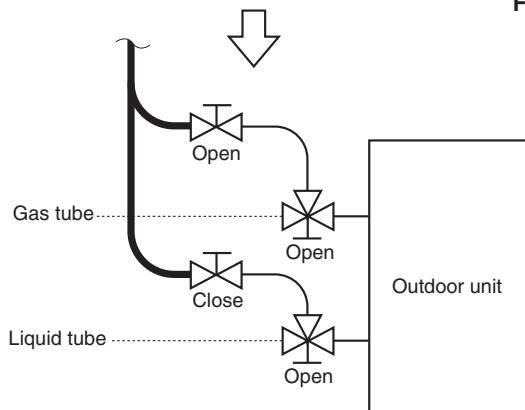

Fig. 6-6
- If the additional refrigerant charge amount cannot be charged at once, charge the remaining refrigerant in liquid form by using the gas tube service valve with the system in cooling operation mode at the time of test run. (Fig. 6-6)